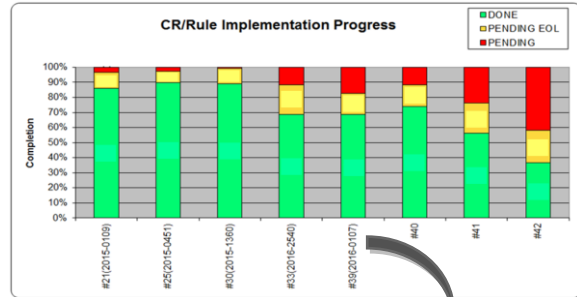

Figure 5: Weekly AI Monitoring Chart
Unlike the runsheet AI checker, which applies "AI" rules on a single flow during creation, the "AI" monitoring (Figure 5 & 6) runs weekly to report with email alert the status of the change for all active flows. This helps the Change Request (CR) owners to track and ensure timely CR closure.